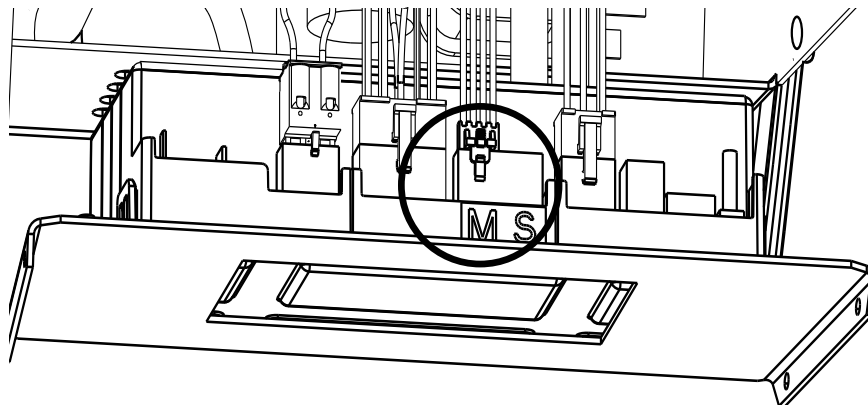

Figure 7.7.
- Disconnect the Regulator motor wire harness lead from module Terminal "M", fig. 7.7
- Connect the motor leads to Terminal "M" on the IFC. See Figs. 7.7 - 7.8.